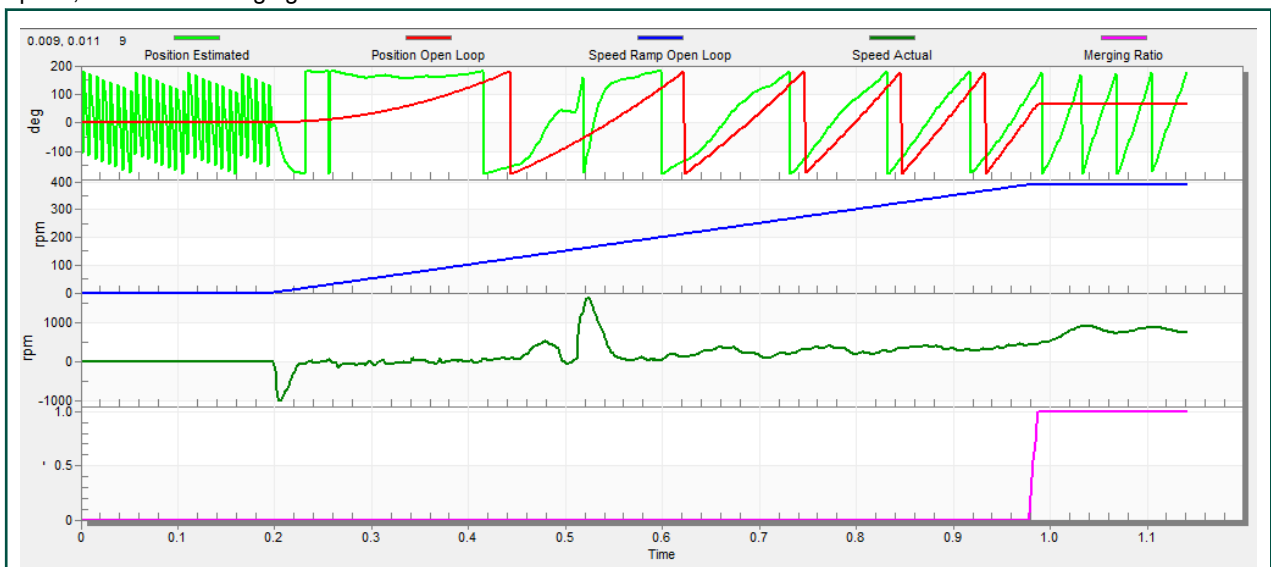

Figure 54. Motor startup
1. The start-up process can be tuned by a set of parameters located in the “Sensorless” tab. Two of them (ramp increment and current) are accessible in both tuning modes. The start-up tuning can be processed in all control modes besides the scalar control. Setting the optimal values results in a proper motor startup. An example start-up state of low-dynamic drives (fans, pumps) is shown in Figure 54.